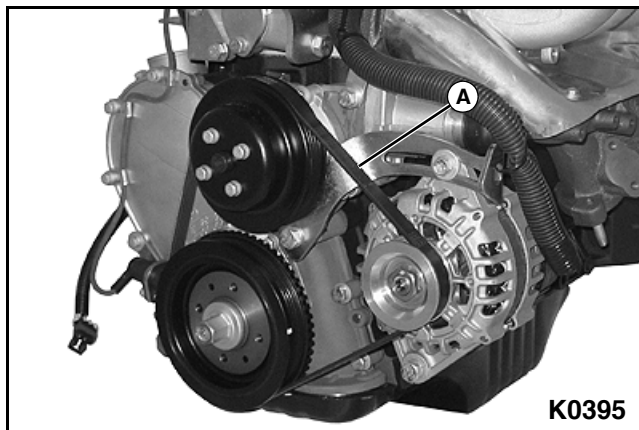

Figure 5-14
2. Locate the drive belt (A). See Figure 5-14.